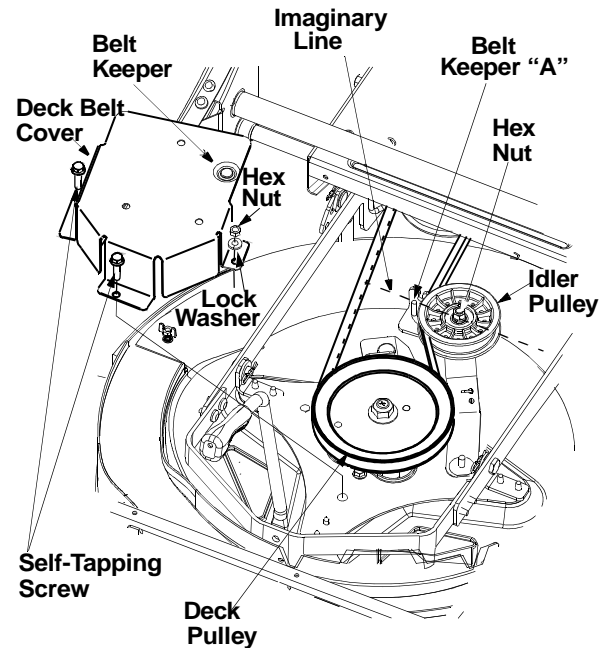

Figure 16
- Using a 1/2" socket wrench, remove two self-tapping screws, lock washer and hex nut that hold the deck belt cover to the deck. See Figure 16. For this, you will have to work from the top left side of the mower. Remove the belt cover.
- Using a 9/16" wrench, loosen the hex nut on the idler pulley. See Figure 16.
- Place the new belt around the deck pulley and the engine pulley making sure that the belt is routed inside the belt keepers. There are two belt keepers under the grass catcher, one on the idler and the other under the deck belt cover. See Figure 16.
- Make sure to align the belt keeper in line with the frame. See Figure 16.
NOTE: An imaginary line between the belt keeper and idler pulley should be parallel to frame. See Figure 16.